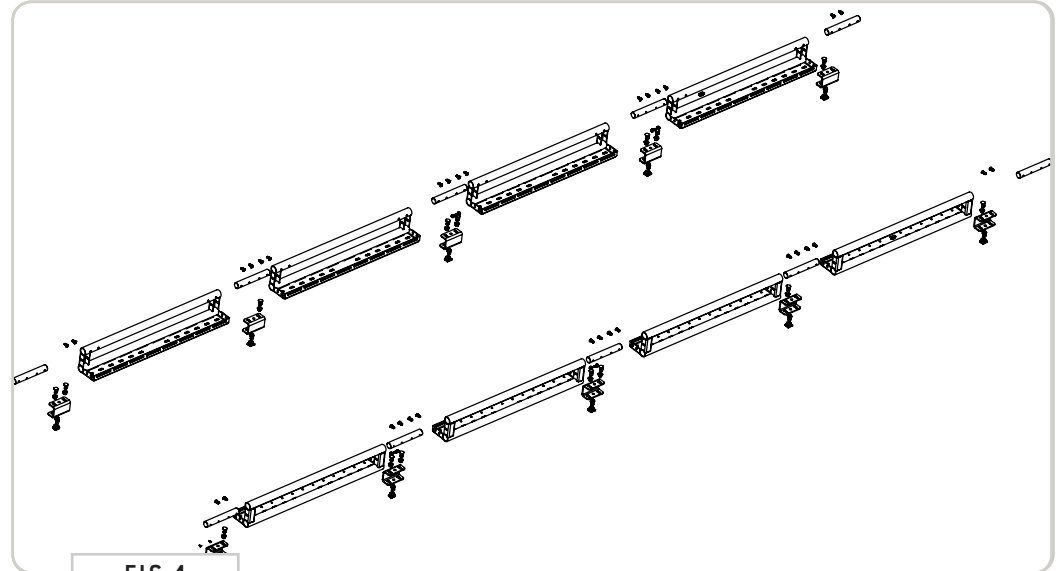

FIG 4
**2.2 Assemble Side Rails:** Attach another **Side Rail** piece to the protruding end of the **Bayonet** and repeat the process on the other side of the **Side Rail**. See FIG 4 for layout of components.